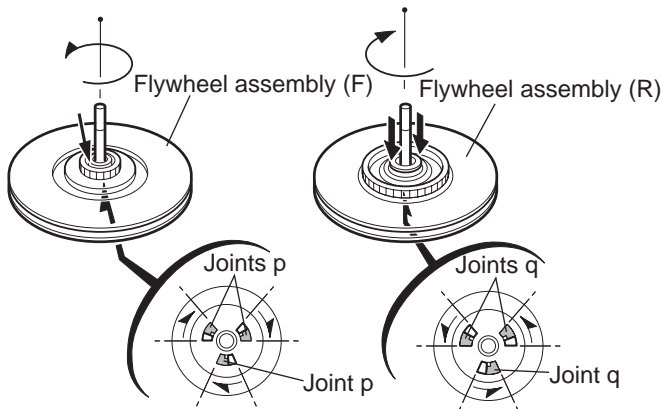

Fig.20
2.2.10 Disassembling the flywheel assembly (F) (See Fig.20 and 21)
2.2.11 Disassembling the flywheel assembly (R) (See Fig.20 and 22)